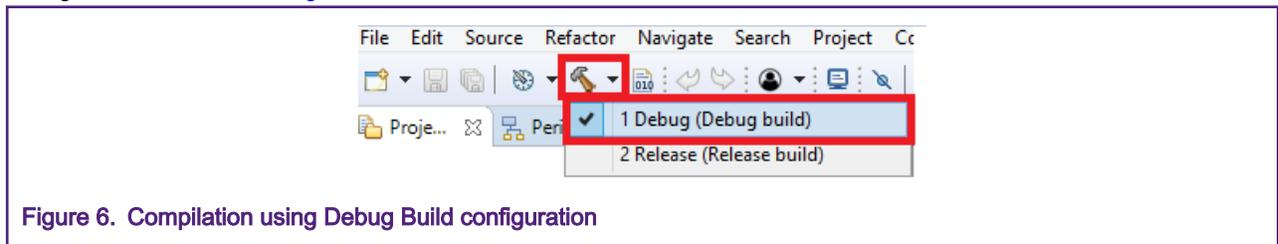

Figure 6. Compilation using Debug Build configuration
- At this point, the memory pool optimizer was enabled and configured. Now, compile the project with Debug build configuration as shown in Figure 6.